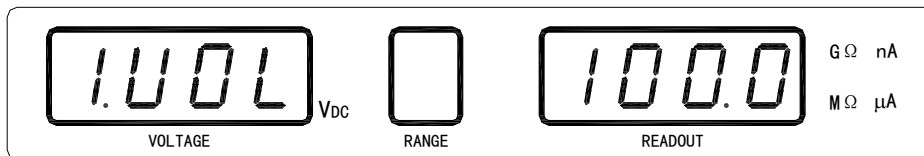

Figure 3-1 Test Voltage Setup
- 1) Press **SET/ENTER** key in the discharge status to enter the main setup menu as shown in the following figure 3-1. Voltage menu item "**1.VOL**" will be blinking in the voltage window and the current voltage value will be displayed in the readout window.